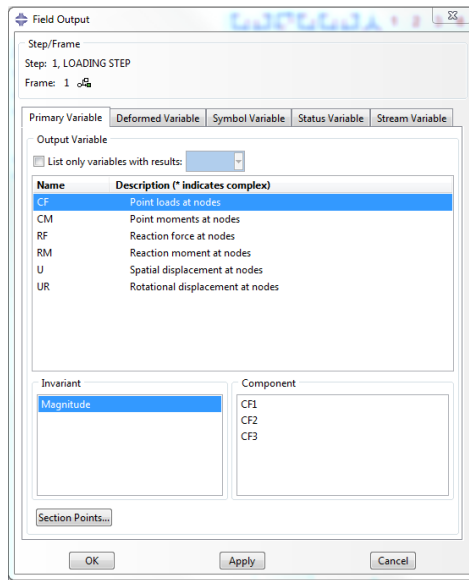
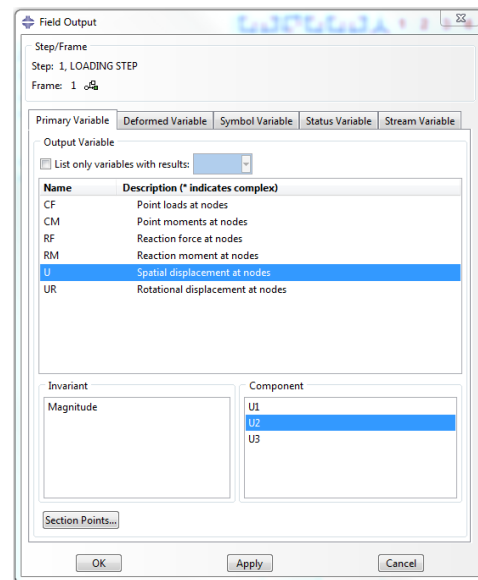

**Figure 52a.** Create XY Data Dialog Box
**Figure 52b.** Create XY Data Dialog Box (PATH)
- Now that the path has been created, click the **Create XY Data** icon  in the **Visualization** module. The **Create XY Data** dialog box will appear (Figure 52a). Under **Source**, choose the **Path** option (Figure 52b).